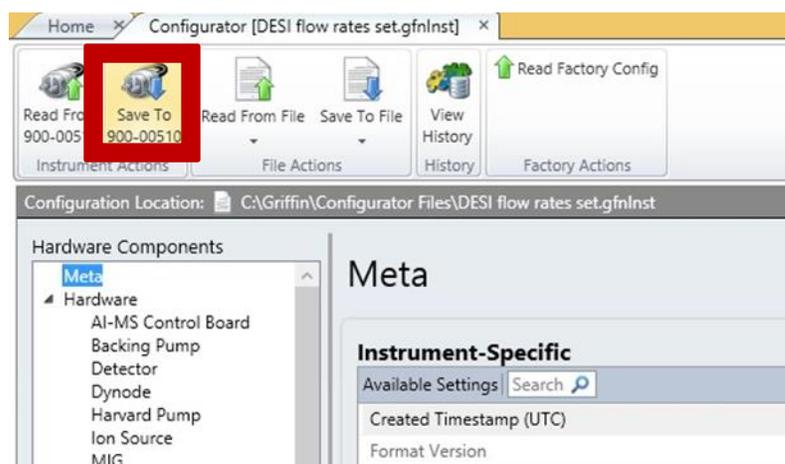

Figure 3.10 – “Save to Instrument” button
6. Once the appropriate flow rate has been inputted, press the “Save to Instrument” button. After saving to the instrument, click the “Home” tab to return to the software home screen and disconnect from the instrument (Figure 3.10)